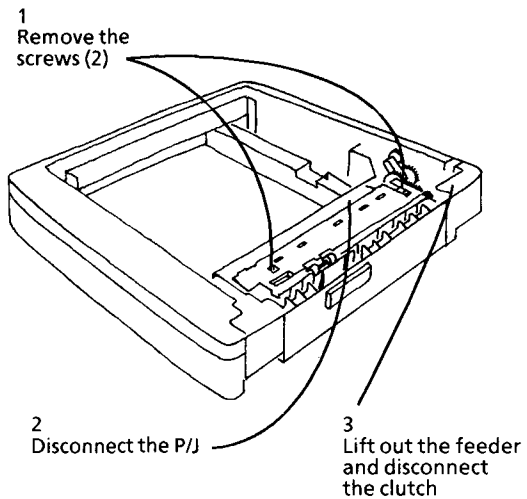

Figure 1. Removing the Tray 2 Feeder
3. Remove the Tray 2 Feeder (Figure 1).